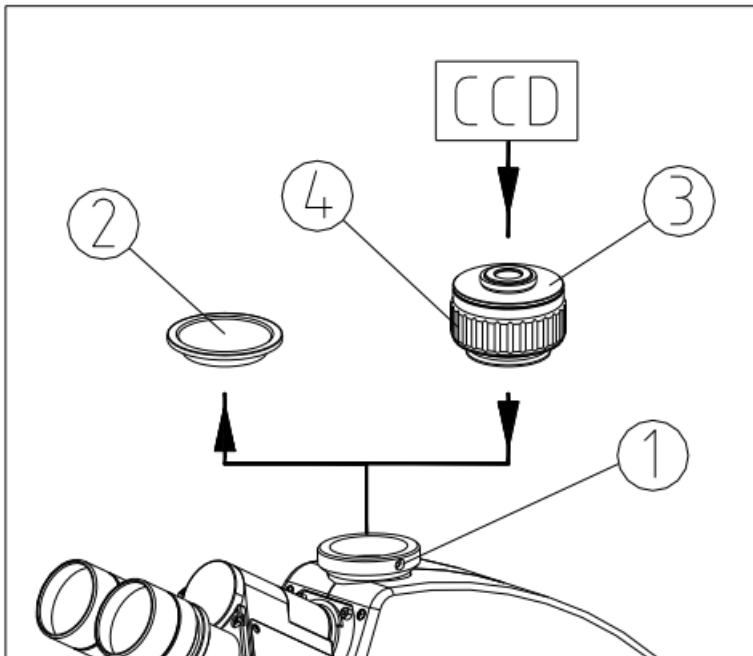

Fig. 14
1. Loosen the lock screw ① of trinocular head and remove the dust cover ② (See **Fig. 14**).